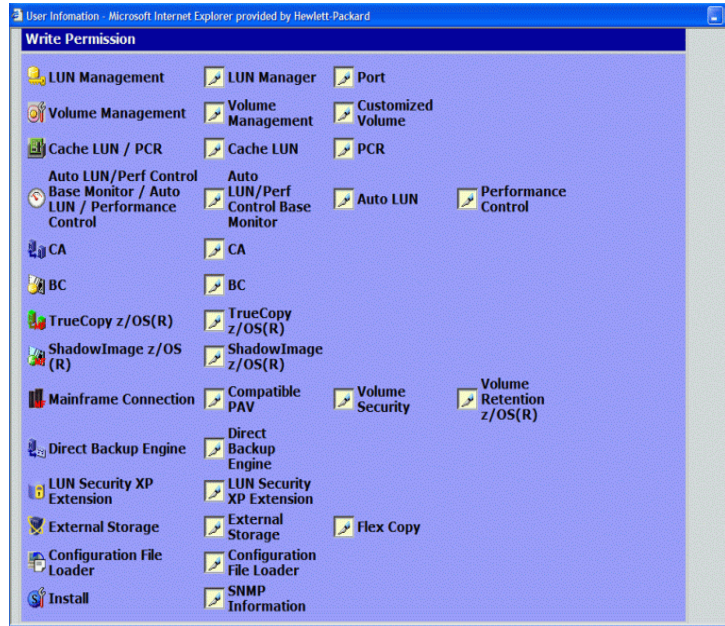

Figure 54: Permissions pane
- **Details:** Click to access details about Write Permissions (see Figure 54.)